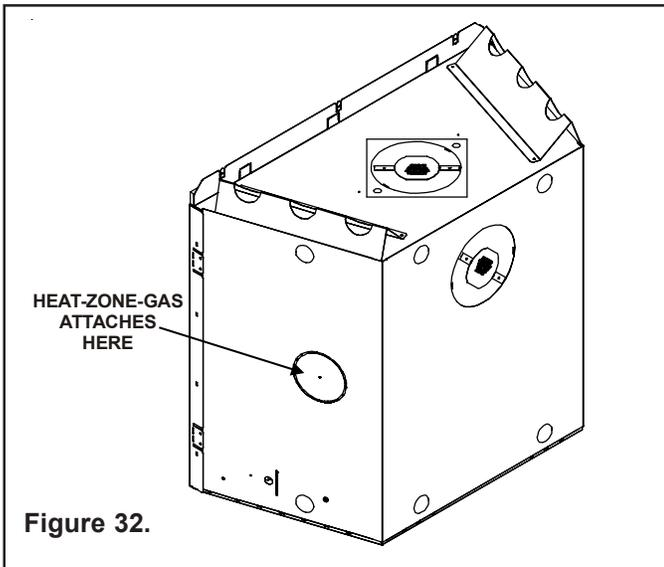

Figure 32.
1. Remove the knockout from the fireplace and discard it (see Figure 32).